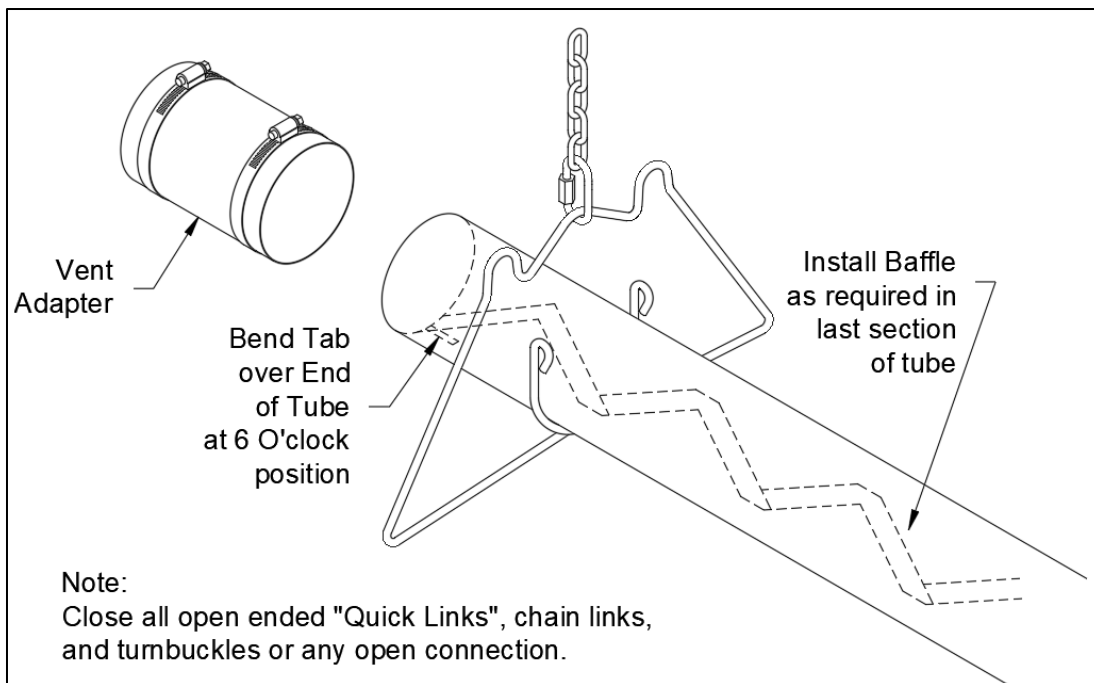

Figure 10: Baffle Installation
- If required for your heater model (refer to Table 1), install the baffle at the end of the heat exchanger. The small tab on the baffle is folded over the end of the tube and clamped in place by the vent connector and vent system, refer to Figure 10.